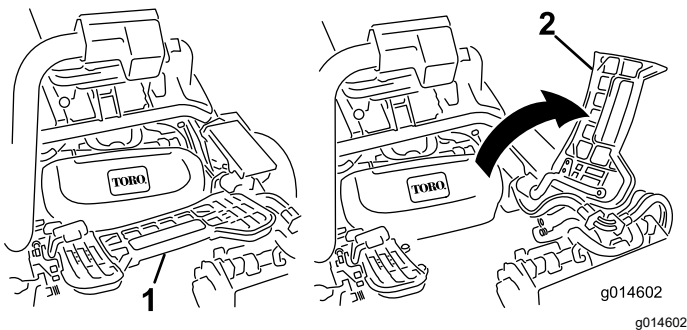

Figure 46
1. Lift up on the footrest and swing it open, allowing access to the center cutting unit position (Figure 46).